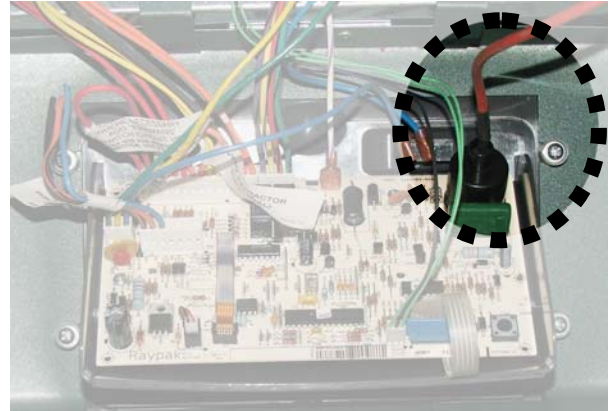

Fig. 35
1. Re-connect pilot wire (side B) to new board. See Fig. 35.